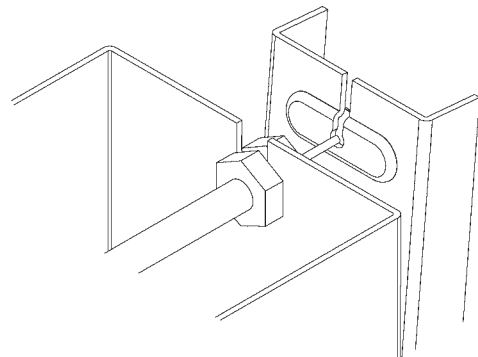

FIG. 9
1. Assemble the operating cable to the fountain bracket. (Fountain should be mounted to exterior wall) Create a loop in the cable and thread the free end of the cable through the wall into the freeze resistant box. The adjustment nuts should be in the middle of threaded area on the operating cable. See Figure 9